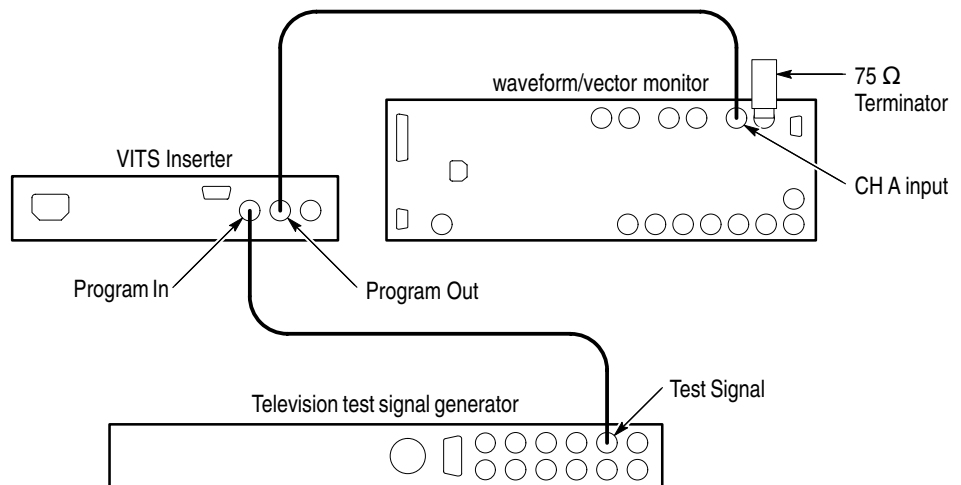

Figure 5–2: Measuring VITS on a waveform/ vector monitor
1. Connect a $75\ \Omega$ coaxial cable from the television test signal generator signal output to the VITS inserter PROGRAM IN. See Figure 5–2.
2. Connect a $75\ \Omega$ cable from the VITS inserter PROGRAM OUT to the waveform/vector monitor CH A Input. Terminate the remaining side of the loop-through input with a $75\ \Omega$ end-line terminator. See Figure 5–2.
5. Check that the signal blanking is at $0\text{ V} \pm 10\text{ mV}$ (± 3 minor div). See Figure 5–3.